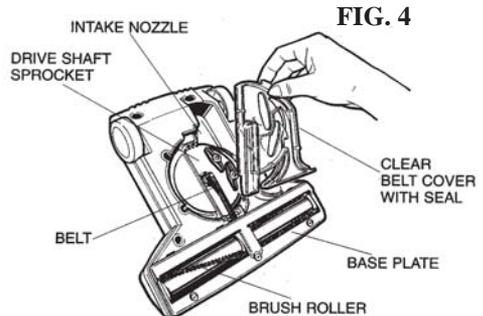

FIG. 4
2. Turn the powerhead over and remove the clear belt cover by first rotating the two latches counterclockwise until they align with the openings in the belt cover. Lift the belt cover out from under the base plate (Fig. 4).